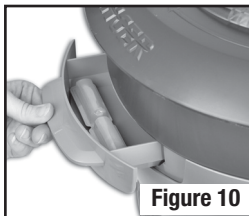

Figure 10
- c. Fit bait cartridge into the Chamber and push the door closed until it locks in place. Additional bait refills can be stored in the Extra Bait Storage Drawer for convenience (**Figure 10**).